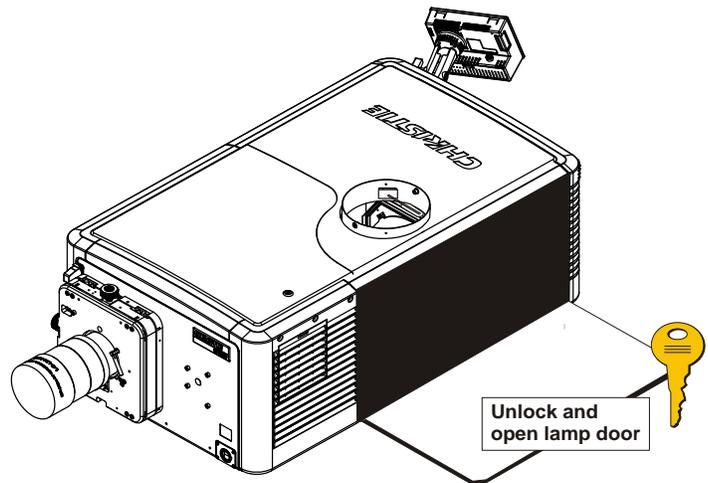

Figure 5-7 Open Lamp Door
1. Unlock and open the lamp door (**Figure 5-7**).
4. Open the lamp door (**Figure 5-7**).